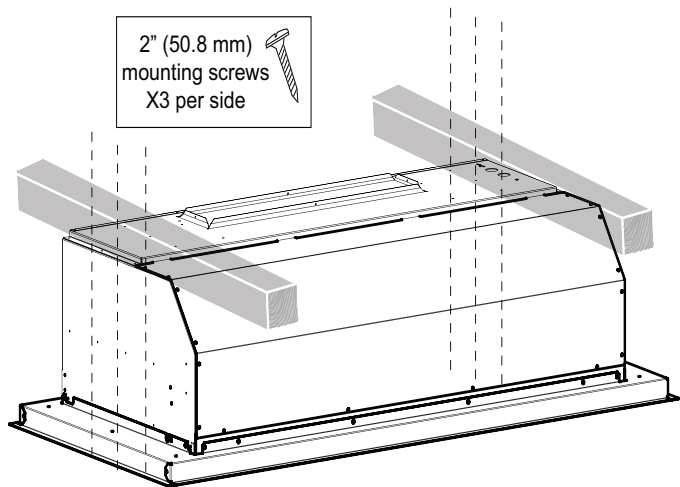

Figure 38: VCIB Side Screws
- Secure to the sides of the frame using six (6) 2" (50.8 mm) mounting screws provided (*Figure 38*).